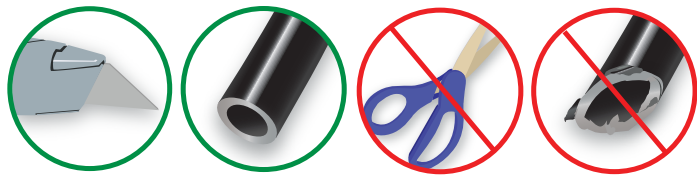

fig. 10
1. Cut the air line in half. Make clean, square cuts with a razor blade or hose cutter (Fig. 10). Do not use scissors or wire cutters.